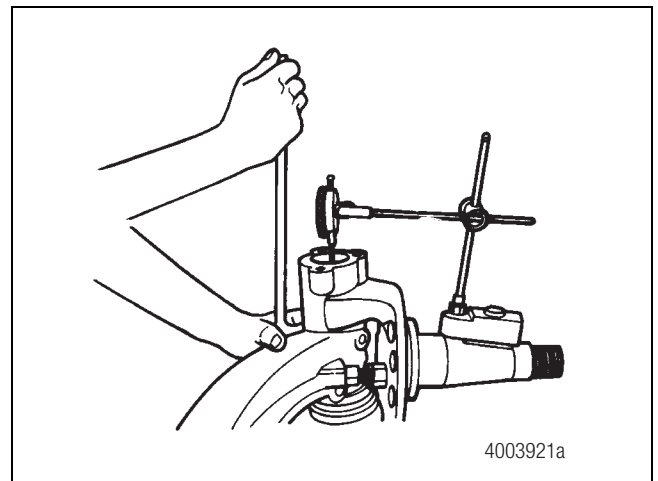

**Figure 26**
3. Attach a dial indicator. Place the base of the indicator onto the knuckle assembly. Place the tip of the indicator onto the center of the king pin. Place the dial indicator on the ZERO position. Figure 26.